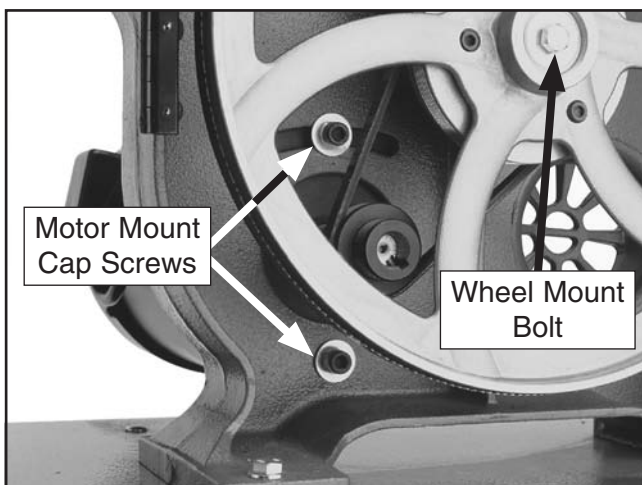

Figure 66. Locations of the wheel mount bolt, and motor mount cap screws.
3. Loosen the motor mount cap screws shown in **Figure 66**.